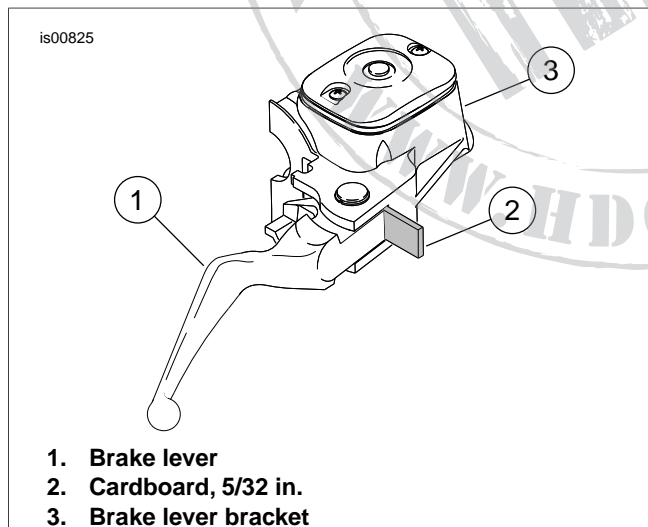

Figure 6. Install Cardboard Insert
1. See Figure 6. Place cardboard insert between brake lever and lever bracket.